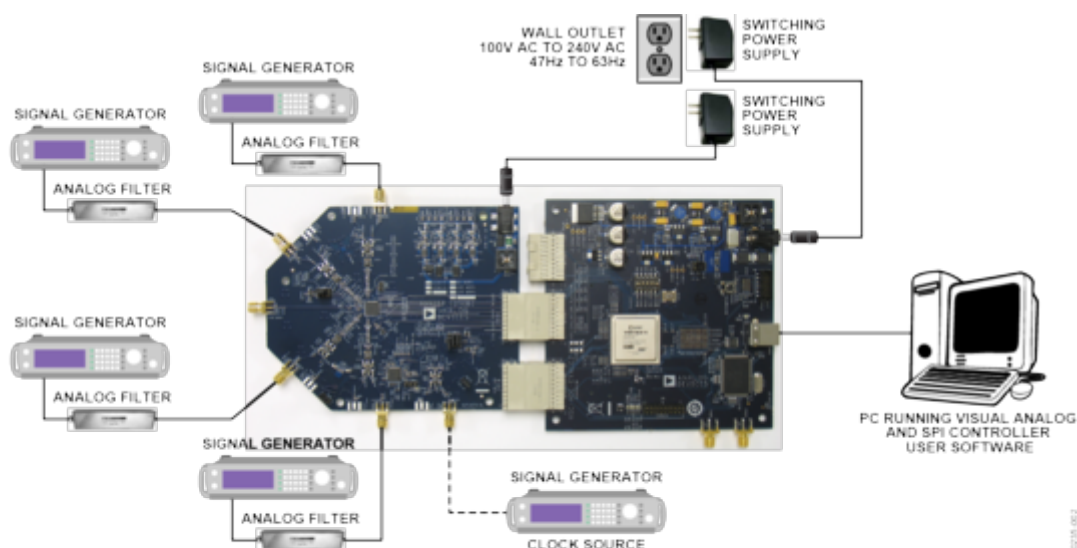

Figure 1. Evaluation Board Connection—AD9653-125EBZ, AD9253-125EBZ or AD9633-125EBZ (on Left) and HSC-ADC-EVALCZ (on Right)
1. Connect the evaluation board to the data capture board, as shown in Figure 1.
The evaluation board provides the support circuitry required to operate the AD9653, AD9253 and AD9633 in their various modes and configurations. Figure 1 shows the typical bench characterization setup used to evaluate AC performance. It is critical that the signal sources used for the analog input and clock have very low phase noise (<1 ps rms jitter) to realize the optimum performance of the signal chain. Proper filtering of the analog input signal to remove harmonics and lower the integrated or broadband noise at the input is necessary to achieve the specified noise performance.